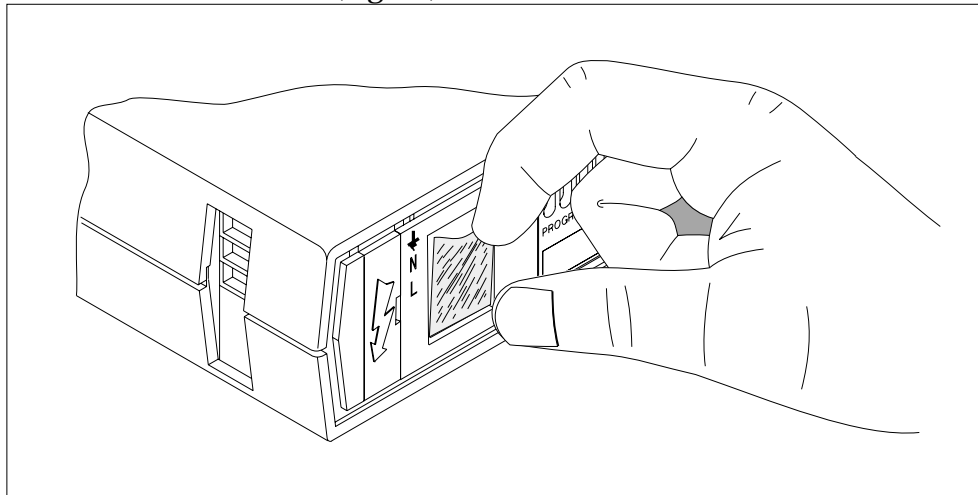

Fig.2-3: Removing the front panel label.
6. Write the function details on the label in the recessed area of the front panel next to the terminal cover plate. If required, the label may be removed as shown in (Fig.2-3).